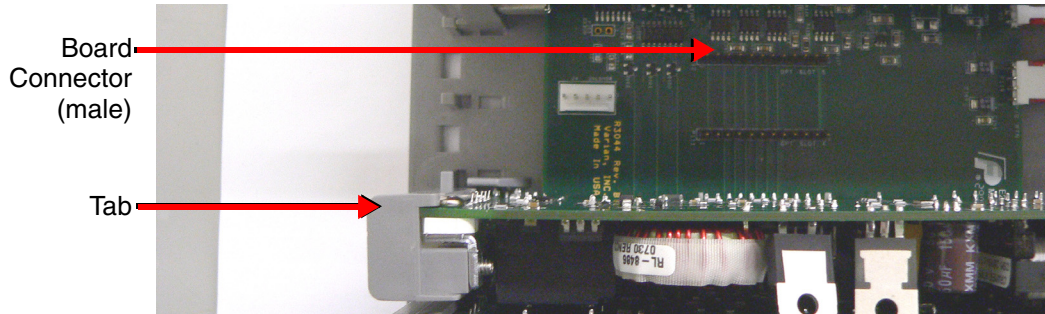

Figure 4-2 Tab and Main Board Connector
- Lift the sensor board by the tab at the rear panel (Figure 4-2). Once the board is disengaged from the board connector, pull the board out of the end guide.